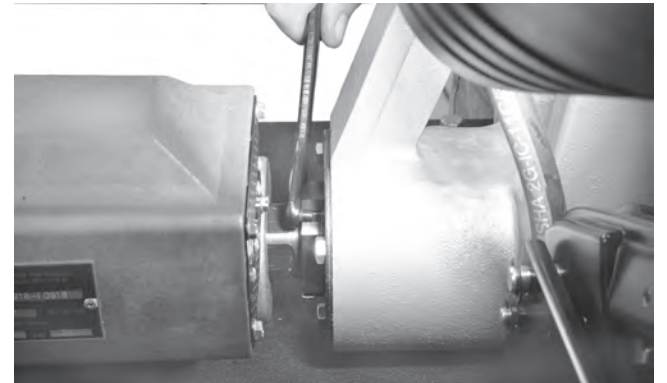

Figure 24 – Loosen and Remove Drive Shaft Retaining Nut
4. Use the spanner wrench to remove the drive shaft bearing retaining nut (*Figure 24*).